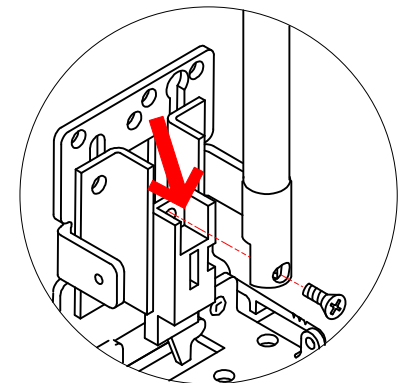

Figure 11
5. With the top rod connector installed, attach the top rod to the chassis at the location indicated by the arrow (see figure 11).